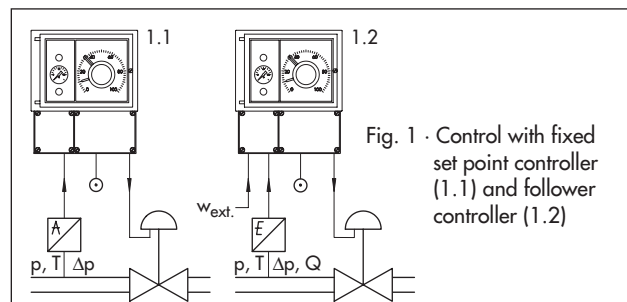

Fig. 2 · Fixed set point controller for standardized signals with Type 3432-01 Controller Station
Fixed set point controller (Figs. 2 and 3) · With input 0.2 to 1 bar, 3 to 15 psi or 4 (0) to 20 mA